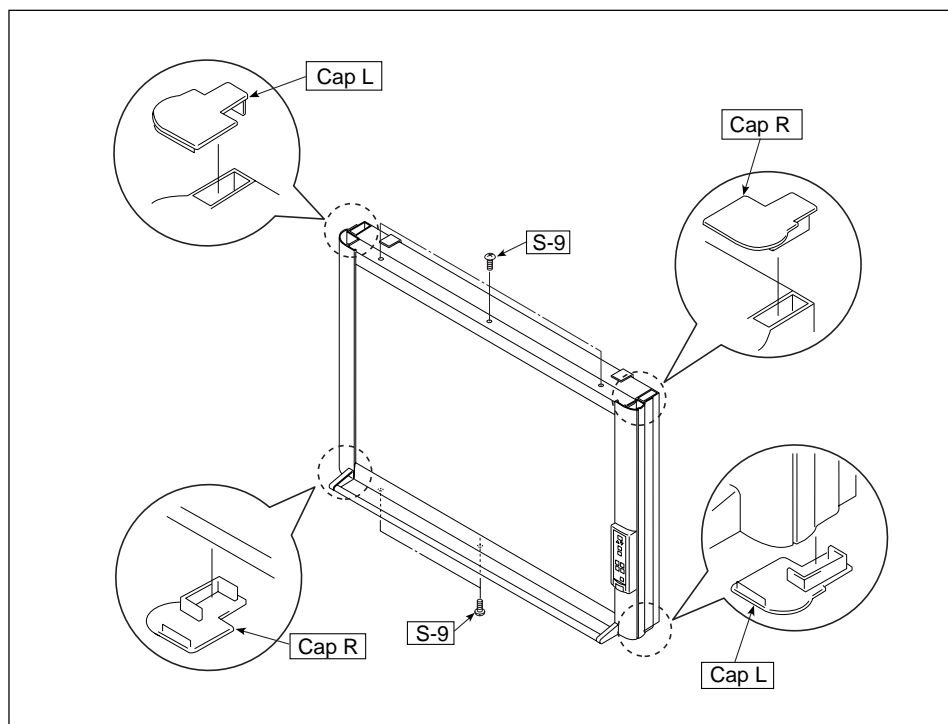

Fig. 6
- 4) Remove the Frame Cover Section. (See Fig. 6.)
1. Remove the "S-9" screws shown in Fig. 6.